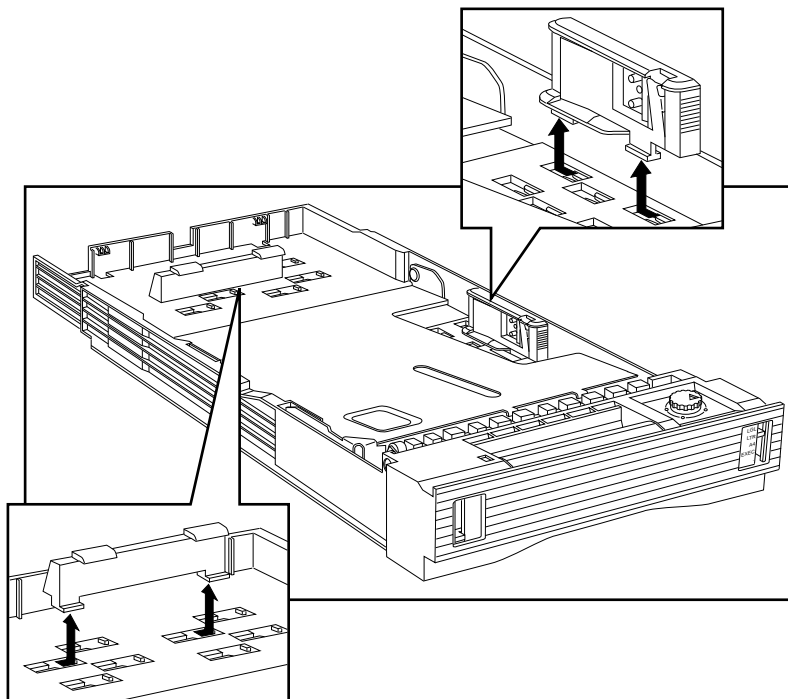

Fig. 9.1 Remove the Paper Size Guides
2. Check the paper length and width guides (fig. 9.1). If they are set for the size media you are going to use, skip to step 3. If not, use the following procedure to reposition the guides.
- a. If the length guide is not positioned for the desired size, slide it to the right, lift it up and out. If the width guide is not positioned for the desired size, slide it forward and lift it up and out (fig. 9.1).